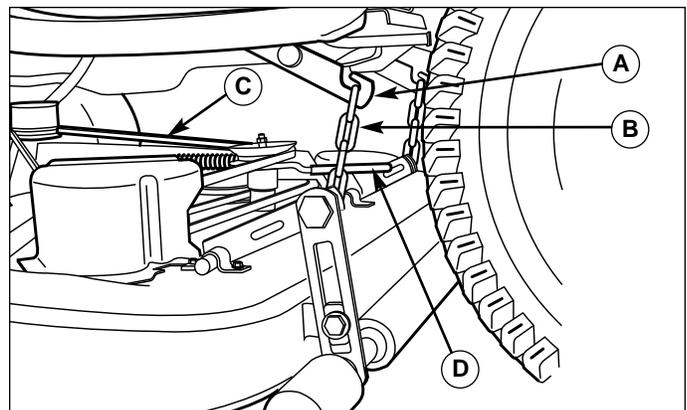

Figure 5. Mower Lift
3. Use the idler arm (D, Figure 5) to release tension on the PTO belt, and remove belt from the PTO pulley.
4. Pull down on the lift hooks (A, Figure 5) and unhook the lift chains (B).
4. See Figure 5. Connect the mower lift chains (B) to the the tractor lift hooks (A).
5. See Figure 5. From left side of tractor, use the idler arm (D) to relieve belt tension. Install belt (C) onto the PTO pulley.